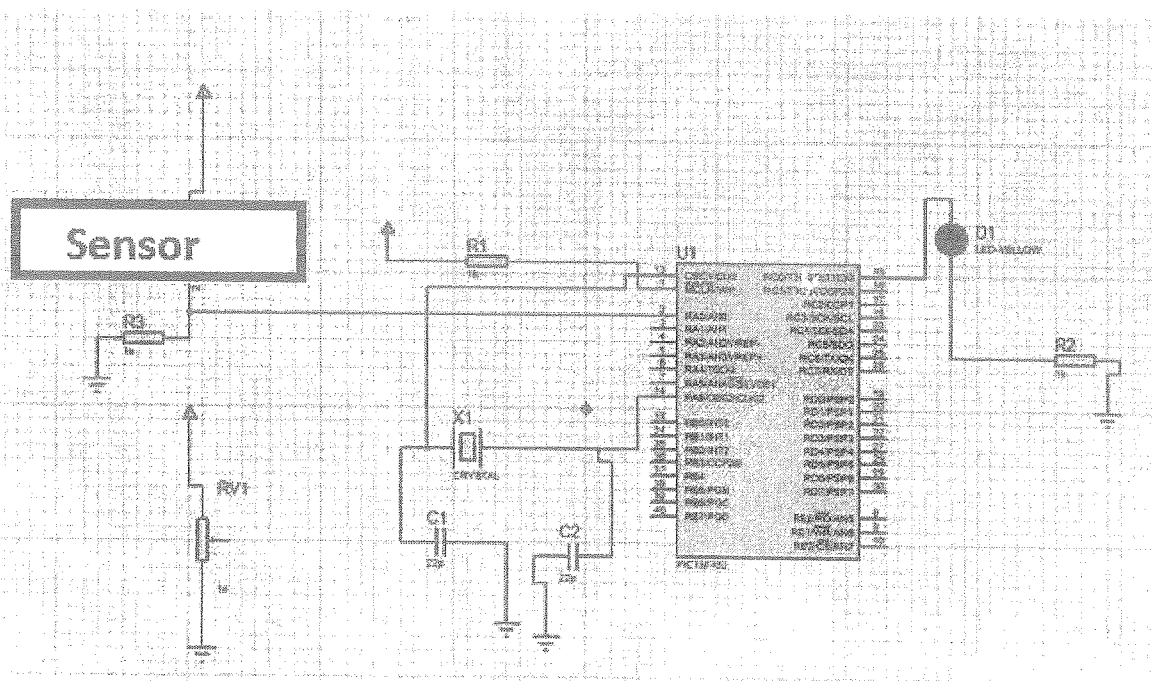

Figure Q4 (a)
b) Figure Q4 (a) shows a 40 pin midrange PIC MCU in an application. Develop a program to implement on this circuit schematic to complete the application. Consider that the input voltage is in the range of -1 V to +3.3V.
You can find additional information in Figure Q4 (b).